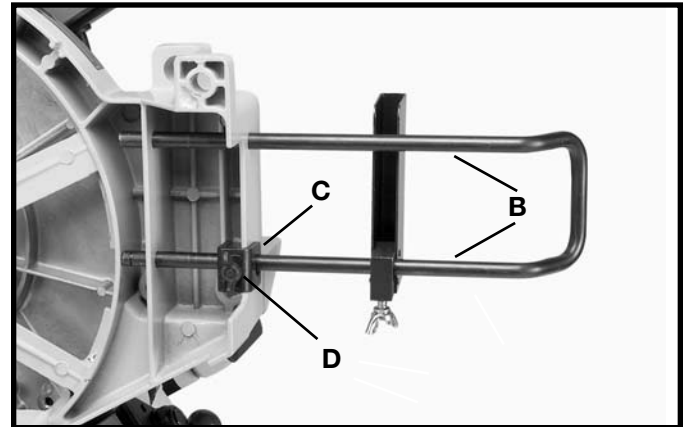

Fig. 9
2. Insert the ends of table extension (B) Fig. 9 into the two holes on the end of the saw base and into the two holes of retaining bracket (C). Tighten the screw (D) to hold the table extension in place.